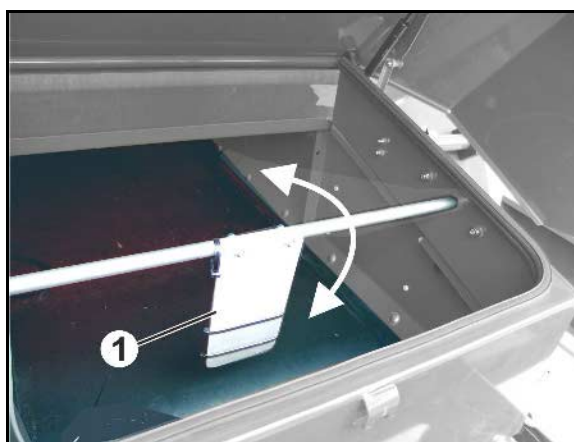

Fig. 43
3. Check the butterfly valve (Fig. 43/1) for ease of movement and adjust the adjustment rings if necessary.
The limit stop of the control butterfly valve is adjusted by means of the screw (Fig. 43/2). If the control butterfly valve is moved to the limit stop, the impulse disc (Fig. 43/4) must cover the sensor (Fig. 43/3).